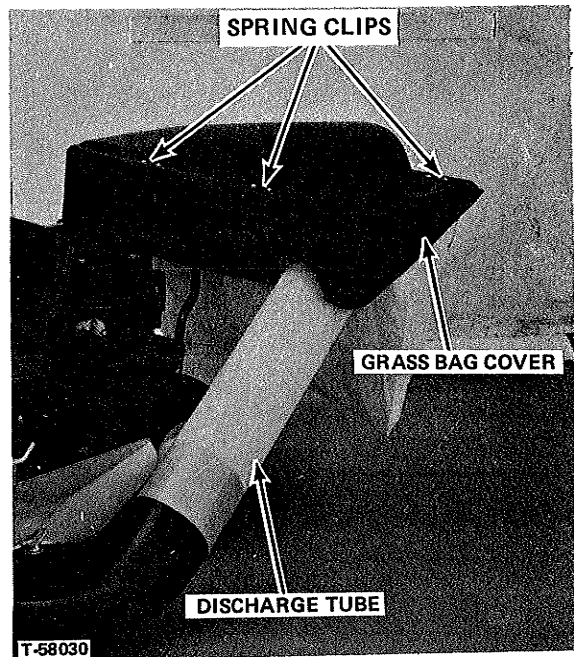

FIGURE 26
12. See Figure 26. The grass bag cover has four spring clips bolted to it to hold it in place on the grass bag frame. To install cover, position it above grass bag, align cut-out on front side with the discharge tube and push down firmly to snap the spring clips over the outside of the grass bag frame and plastic top panel of the bag that covers the frame.